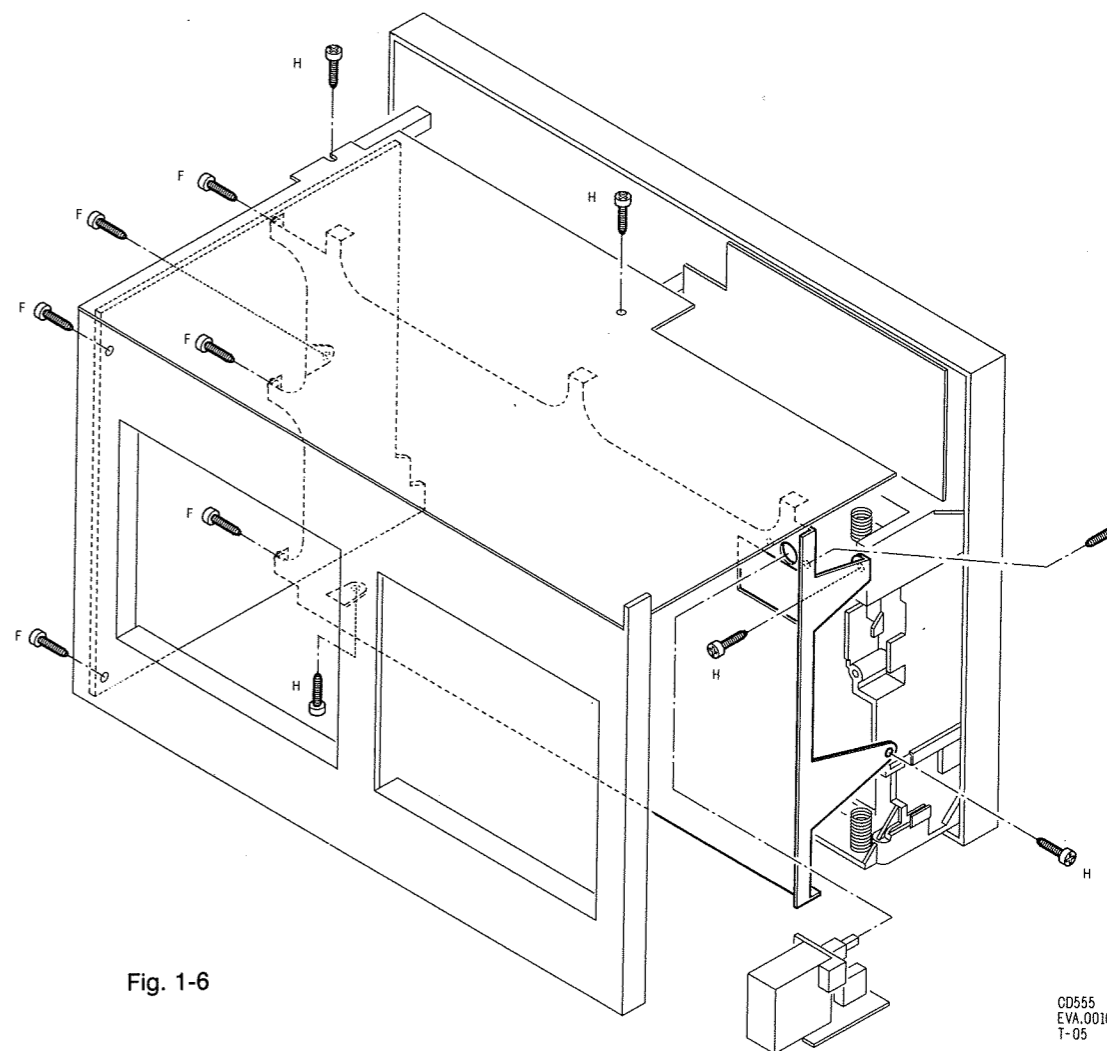
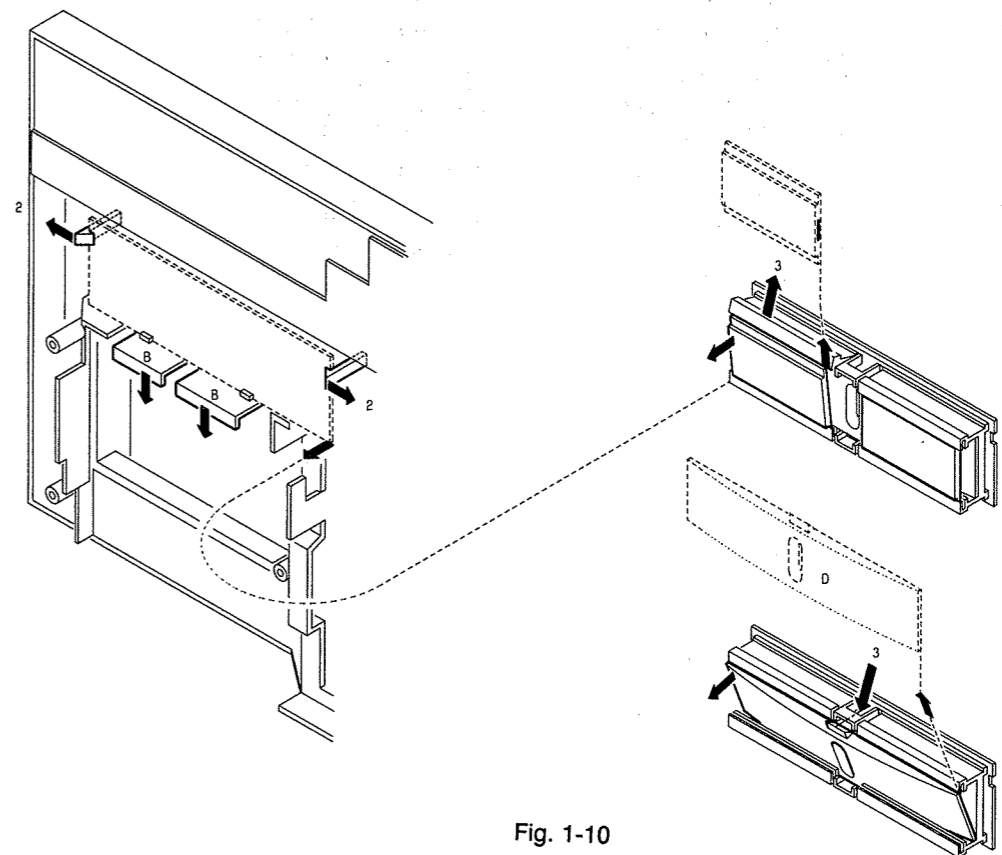

Fig. 1-6
Fig. 1-10
### 3. Separating front from frame (Fig. 1-6)
**7. Disassembly display (Fig. 1-10)**
- Disassembly according to item 2.
- Take out recorder PCB (screws A, see Fig. 1-6).